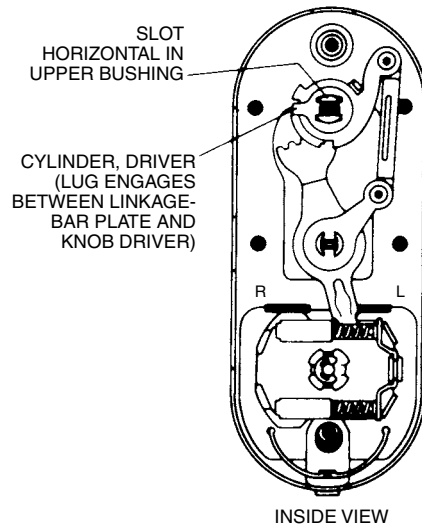

Figure 13.86 Changing hand, Step 17.
17. With the upper bushing slot in the horizontal position, install the cylinder driver (Fig. 13.86).